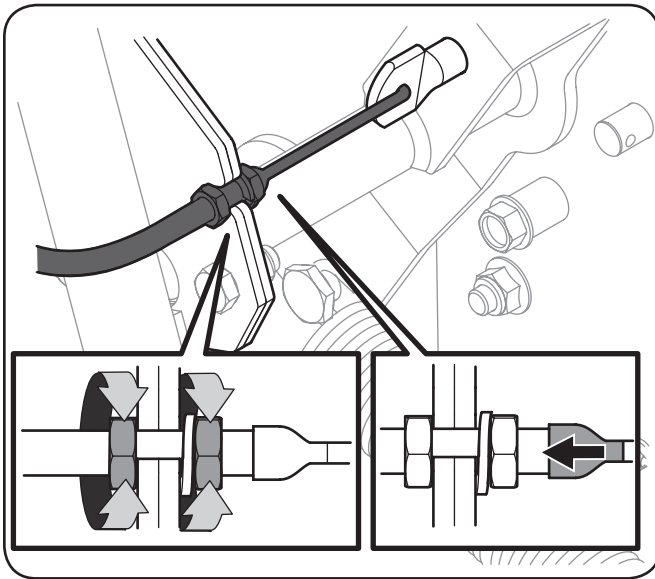

Figure 3-22
3. Pull the cable outward to take up slack, and tighten the jam nuts to secure the cable housing to the lift handle. See Figure 3-22.